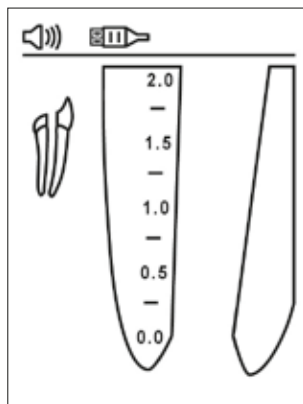

Figure 3
- 6.4.2. Insert the measuring cable into the connection port of the device and make sure that the cable icon appears on the status bar (Fig. 3).